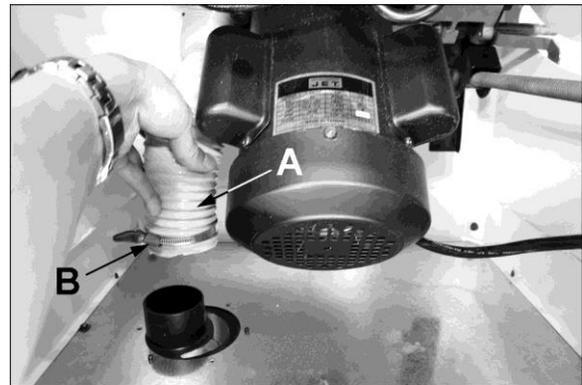

Figure 5-3b
1. Mount legs (K) to cabinet using two M8 screws with washers (HP8/13) into each leg as shown. Install both screws first, then tighten with 5mm hex wrench. (Note: If more clearance is needed to insert a screw, see sect. 6.6 to temporarily mount a handwheel and tilt the trunnion out of the way.)
3. Mount bottom plate (M) to cabinet using eight M5x12 tapping screws (HP16).
5. Attach hose (A, Figure 5-3b) to dust chute.
6. Tighten clamp (B) to secure hose.